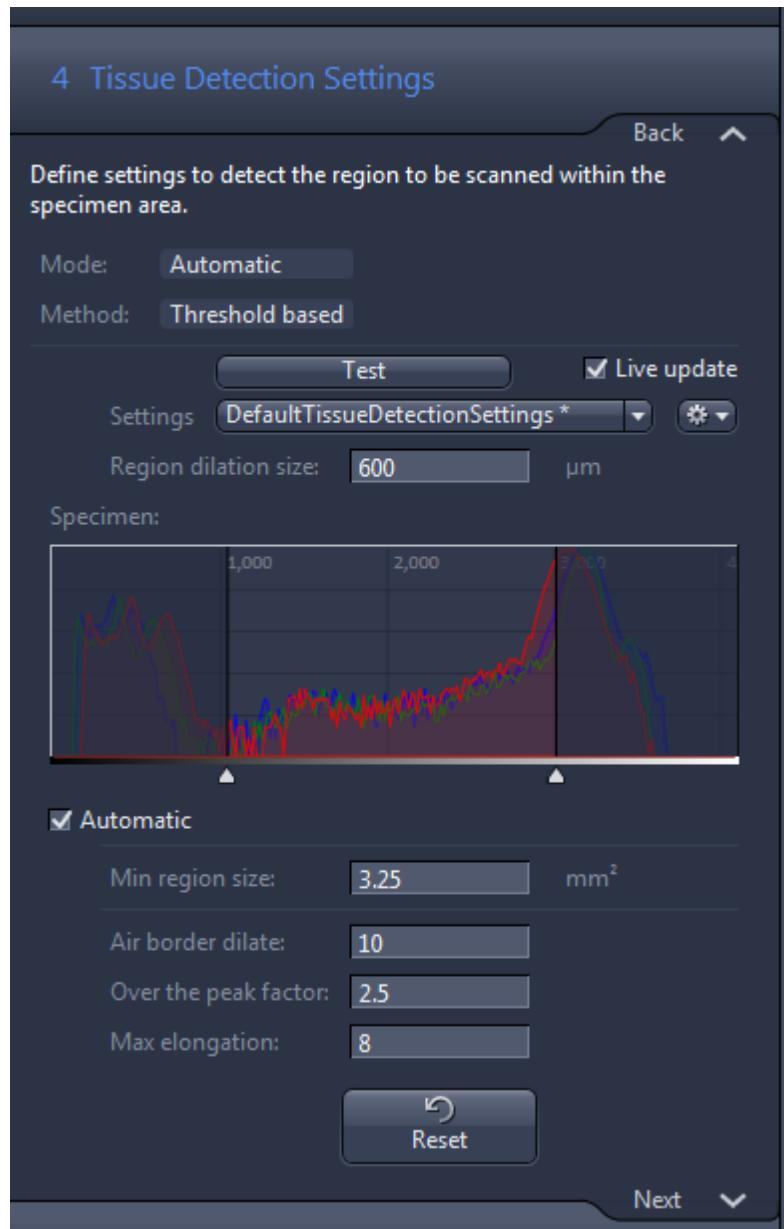

Figure 4      Tissue Detection dialog window
Having defined the region within which the tissue detection will be measured, it is now necessary to perform the actual **tissue detection** (TD). Figure 4 (below) shows the actual dialog window for tissue detection in the ZEN scan software.
As can be seen in figure 4 (above), the principle component of tissue detection is the **preview image histogram**. This section will explain how to get the best results for difficult specimens using these settings.
The strategy that follows assumes that the user is making a **new global profile** and is using the **default settings** shown in figure 4 as a starting point.